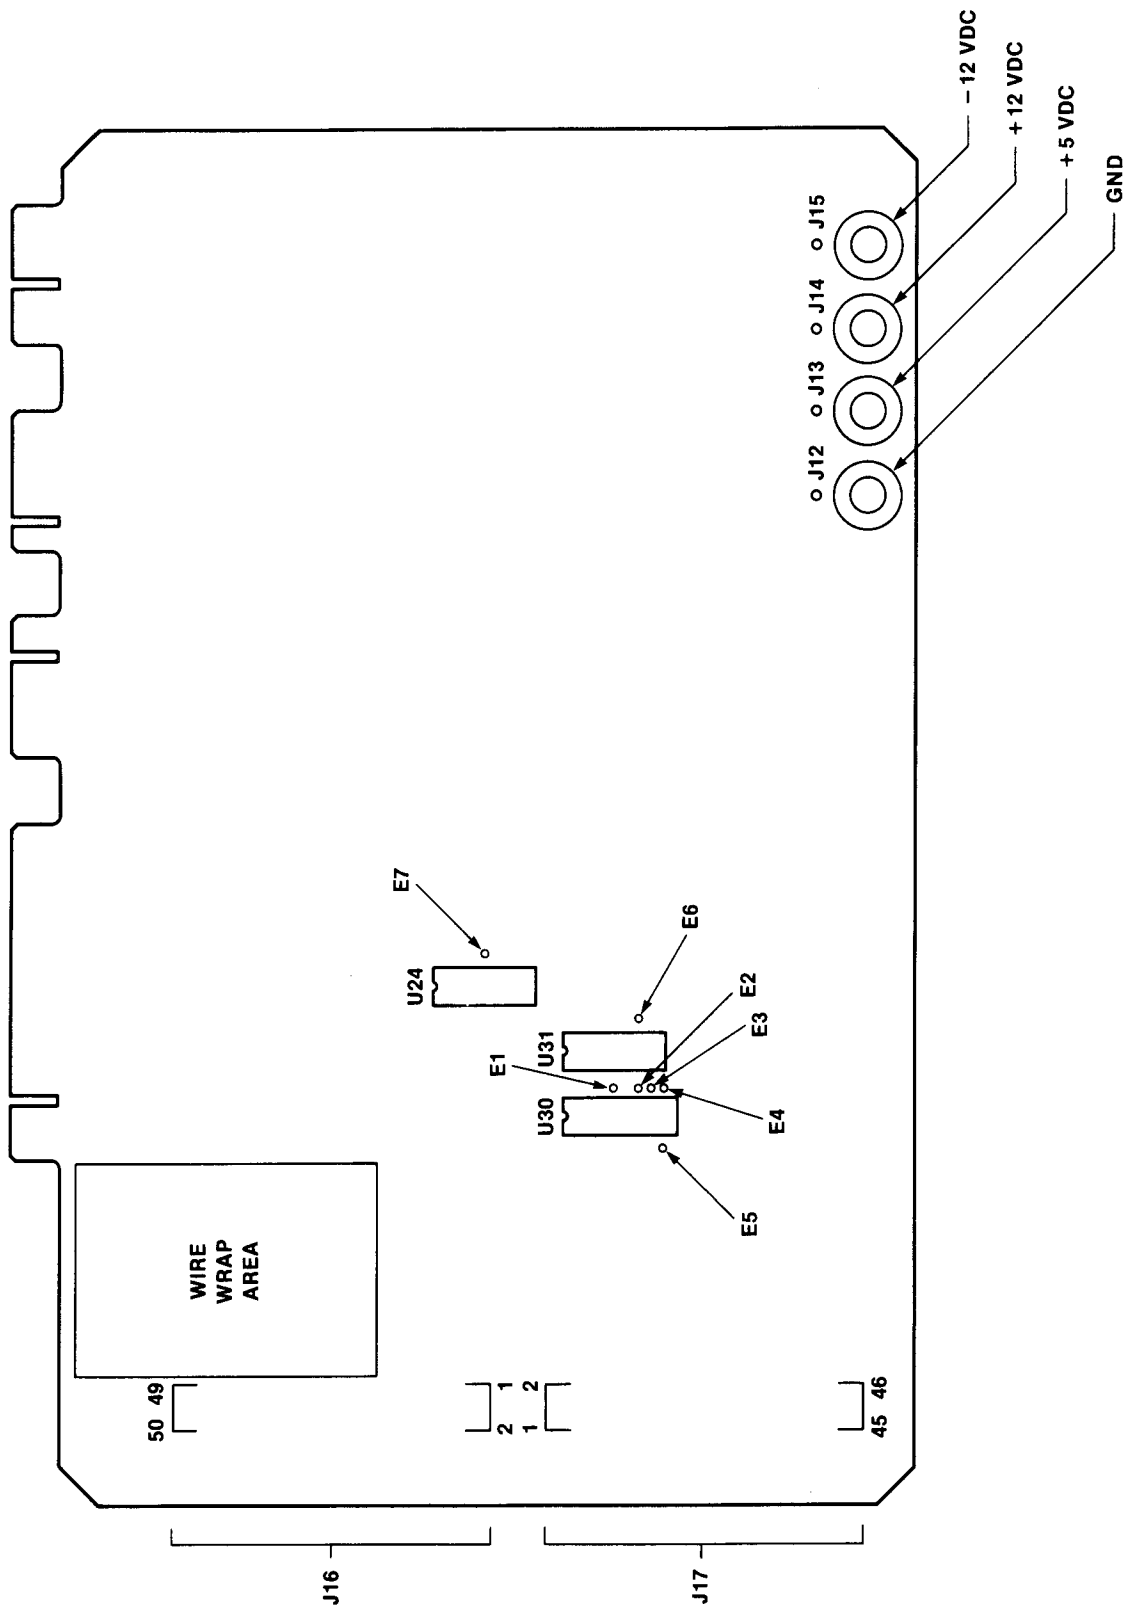
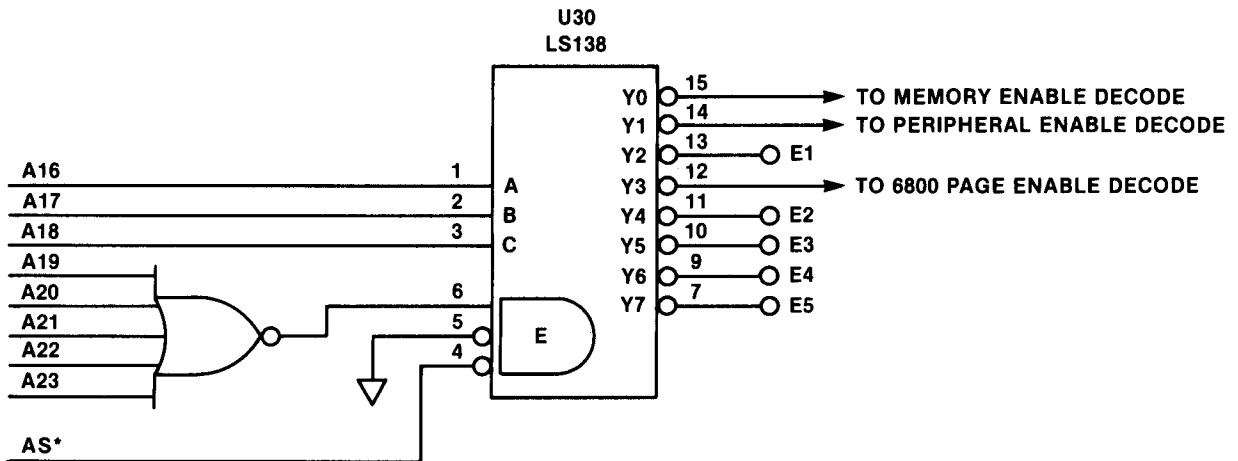
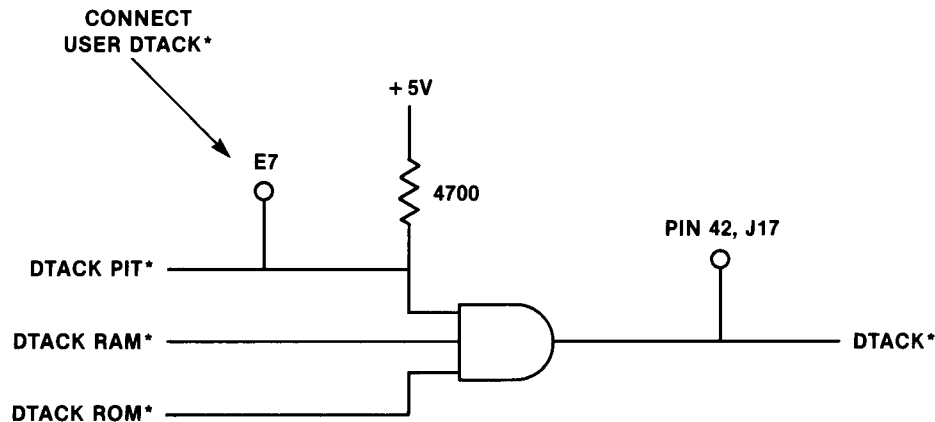
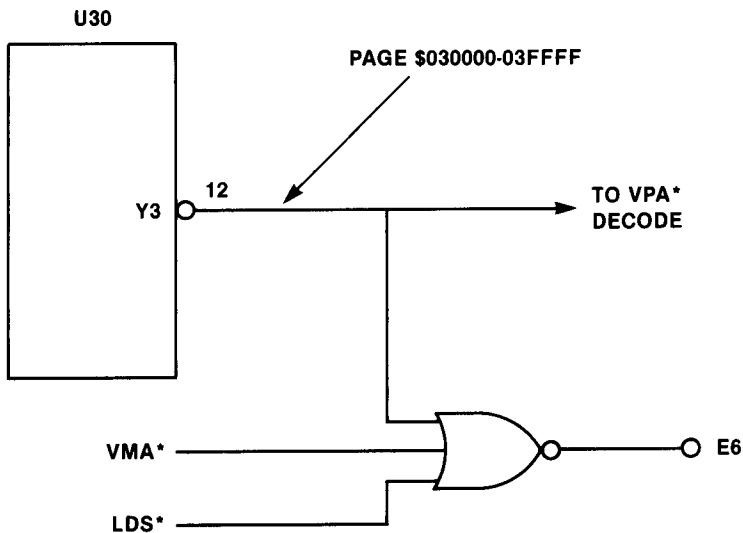

FIGURE 7-2. MEX68KECB Signal Connection Points For Wire-Wrap
FIGURE 7-5. Address Decode Logic For Memory Map Primary Segments
FIGURE 7-6. DTACK\* Signal Generation
FIGURE 7-7. M6800 Page Address Signal Generation
The MC68000 Educational Computer Board provides a small wire-wrap area for those users desiring to do custom interface. The location of the wire-wrap area and the signal connection points are shown in Figure 7-2. The following paragraphs provide a detailed discussion of various aspects of doing custom interface to the ECB.
A connection area designated J17 gives access to the MC68000 bus signals and system timing. Figure 7-2 shows the location of J17 and gives pin locations. Table 7-2 lists J17 pin number vs. signal designation and also shows attributes of these signal lines.
- a. Connection points E1 through E5 (see Figure 7-2 for location) give decode signals for various segments of the MC68000 upper memory map. Figure 7-5 shows the address decode logic and Table 7-3 lists the decoded segments.
- c. Access to the MC68000 signal lines is provided via J17. Special care must be taken with DTACK\* (Data Transfer Acknowledge). The processor DTACK\* is generated by ANDing DTACK PIT\*, DTACK RAM\*, and DTACK ROM\*, as shown in Figure 7-6. The processor DTACK\* goes low whenever any of these go low. The user cannot add another signal to the processor DTACK\* because this signal is not an open-collector output.
A USER DTACK\* is connected to the system via connection point E7 as shown in Figure 7-6. The PIT DTACK\* is turned off when not required, and the USER DTACK\* can be bussed to this point. A 4700 ohm resistor holds PIT DTACK\* high when the driver is turned off. The USER DTACK\* must be an open-collector or three-state driver. (E7's location is between packages U24 and U25 as shown in Figure 7-2.)
**7.3.6.1 M6800 Page Address Decode.** A 64K-byte segment of the system memory map is reserved for an M6800 type interface. Connection point E6 is enabled high whenever this page (\$030000-\$03FFFF) is selected. Connection point E6 can be located on Figure 7-2, and Figure 7-7 shows the logic generating signal E6.